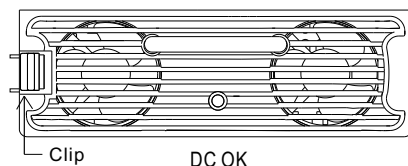

Figure 3-7 Location of the "clip" on RCP-2000 unit
- ⊙ Pull out the RCP-2000 unit: Press the clip shown in Figure 3-7 and pull the unit out.